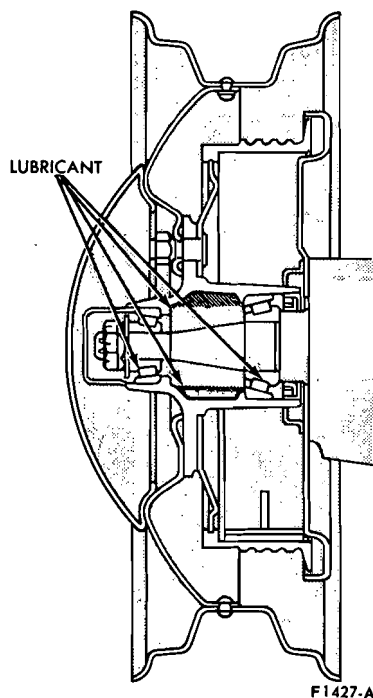

FIG. 4 Front Wheel Hub Lubrication
9. Pack the inside of the hub with specified wheel bearing grease. Add lubricant to the hub only until the grease is flush with the inside diameter of both bearing cups (Fig. 4).